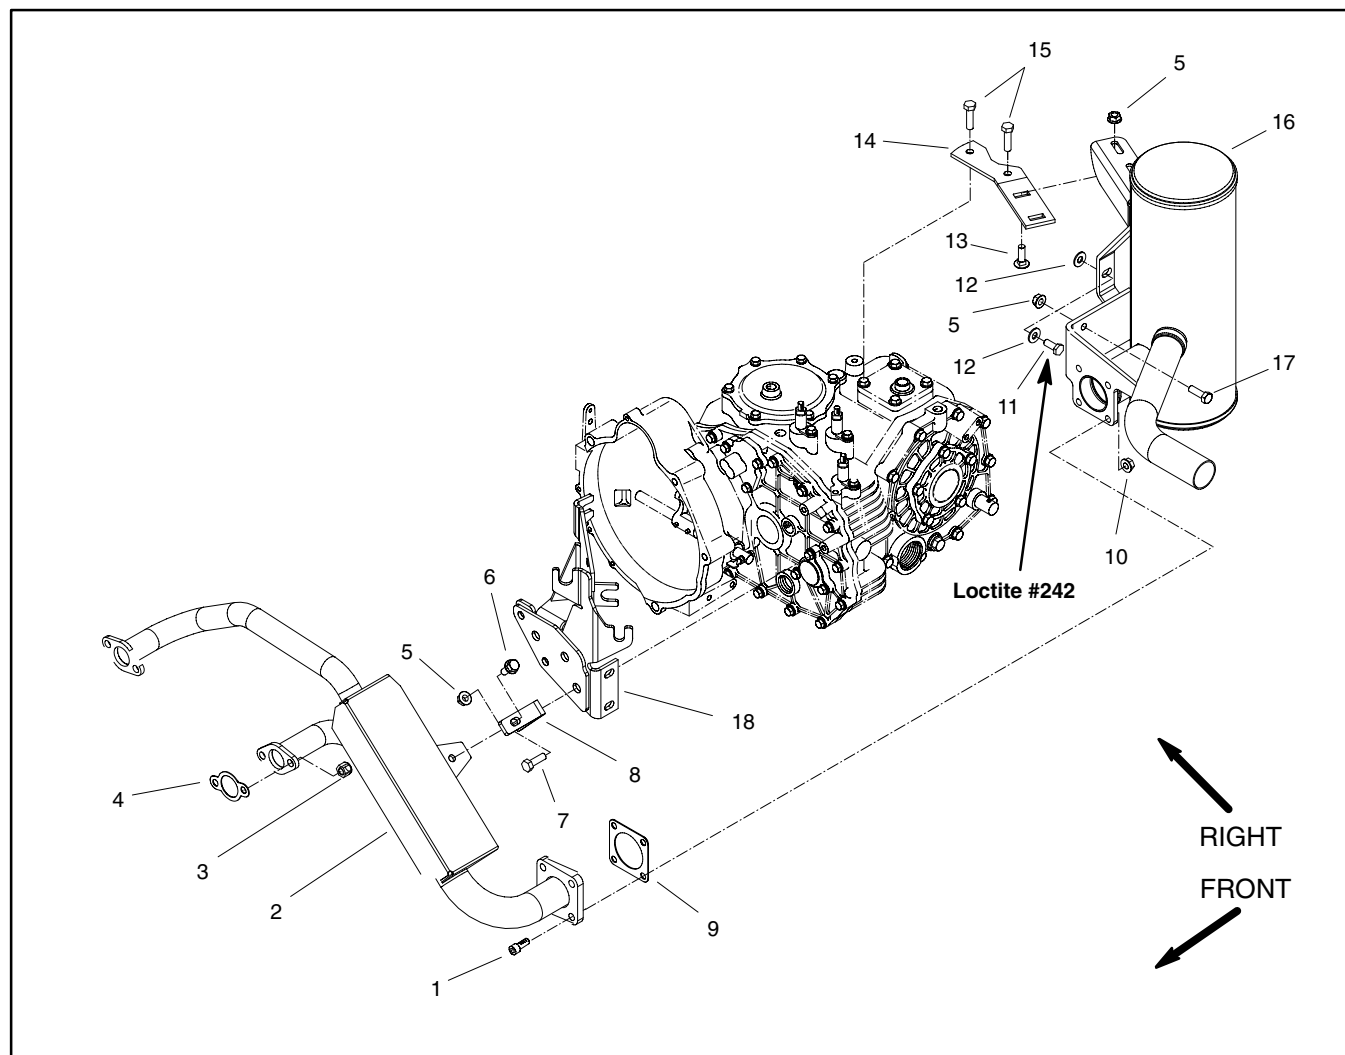

Figure 3
Removal (Fig. 3)
3. Remove exhaust system components as needed using Figure 3 as a guide.
Installation (Fig. 3)
2. If cap screw (item 11) was removed, apply Loctite #242 (or equivalent) to threads during installation.
3. Using Figure 3 as a guide, fit all exhaust components to vehicle before tightening any fasteners. When securing exhaust, tighten fasteners in the following order:
- A. Hex nuts (item 3) that secure manifold to engine.
- B. Cap screw (item 11) with washers (item 12) that secures muffler to transaxle.
- C. Socket head screws (item 1) and flange nuts (item 10) that secure muffler to manifold.
- D. Cap screws (item 17) and flange nuts (item 5) that secure muffler to shift cable mount bracket.
- E. Carriage screws (item 13) and flange nuts (item 5) that secure muffler to mount plate.
- F. Screw (item 6) and flange nut (item 5) that secures exhaust manifold to bracket (item 8).